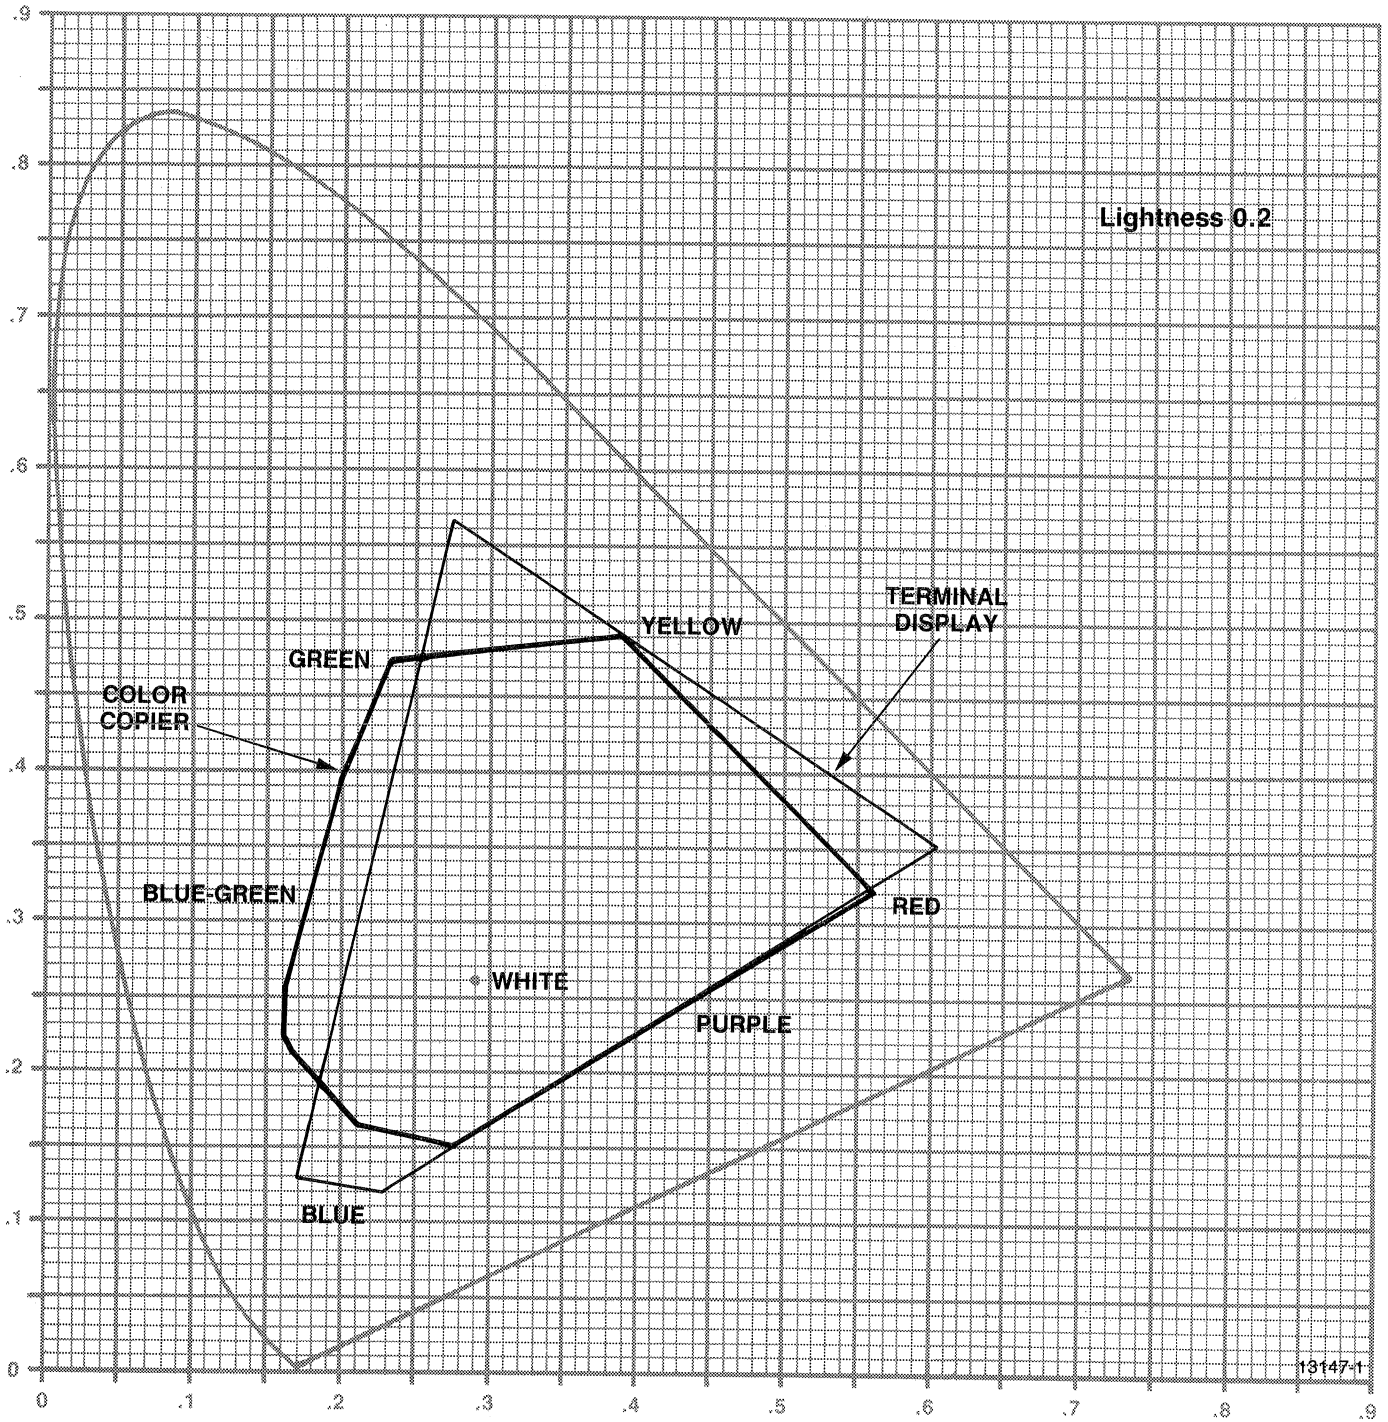
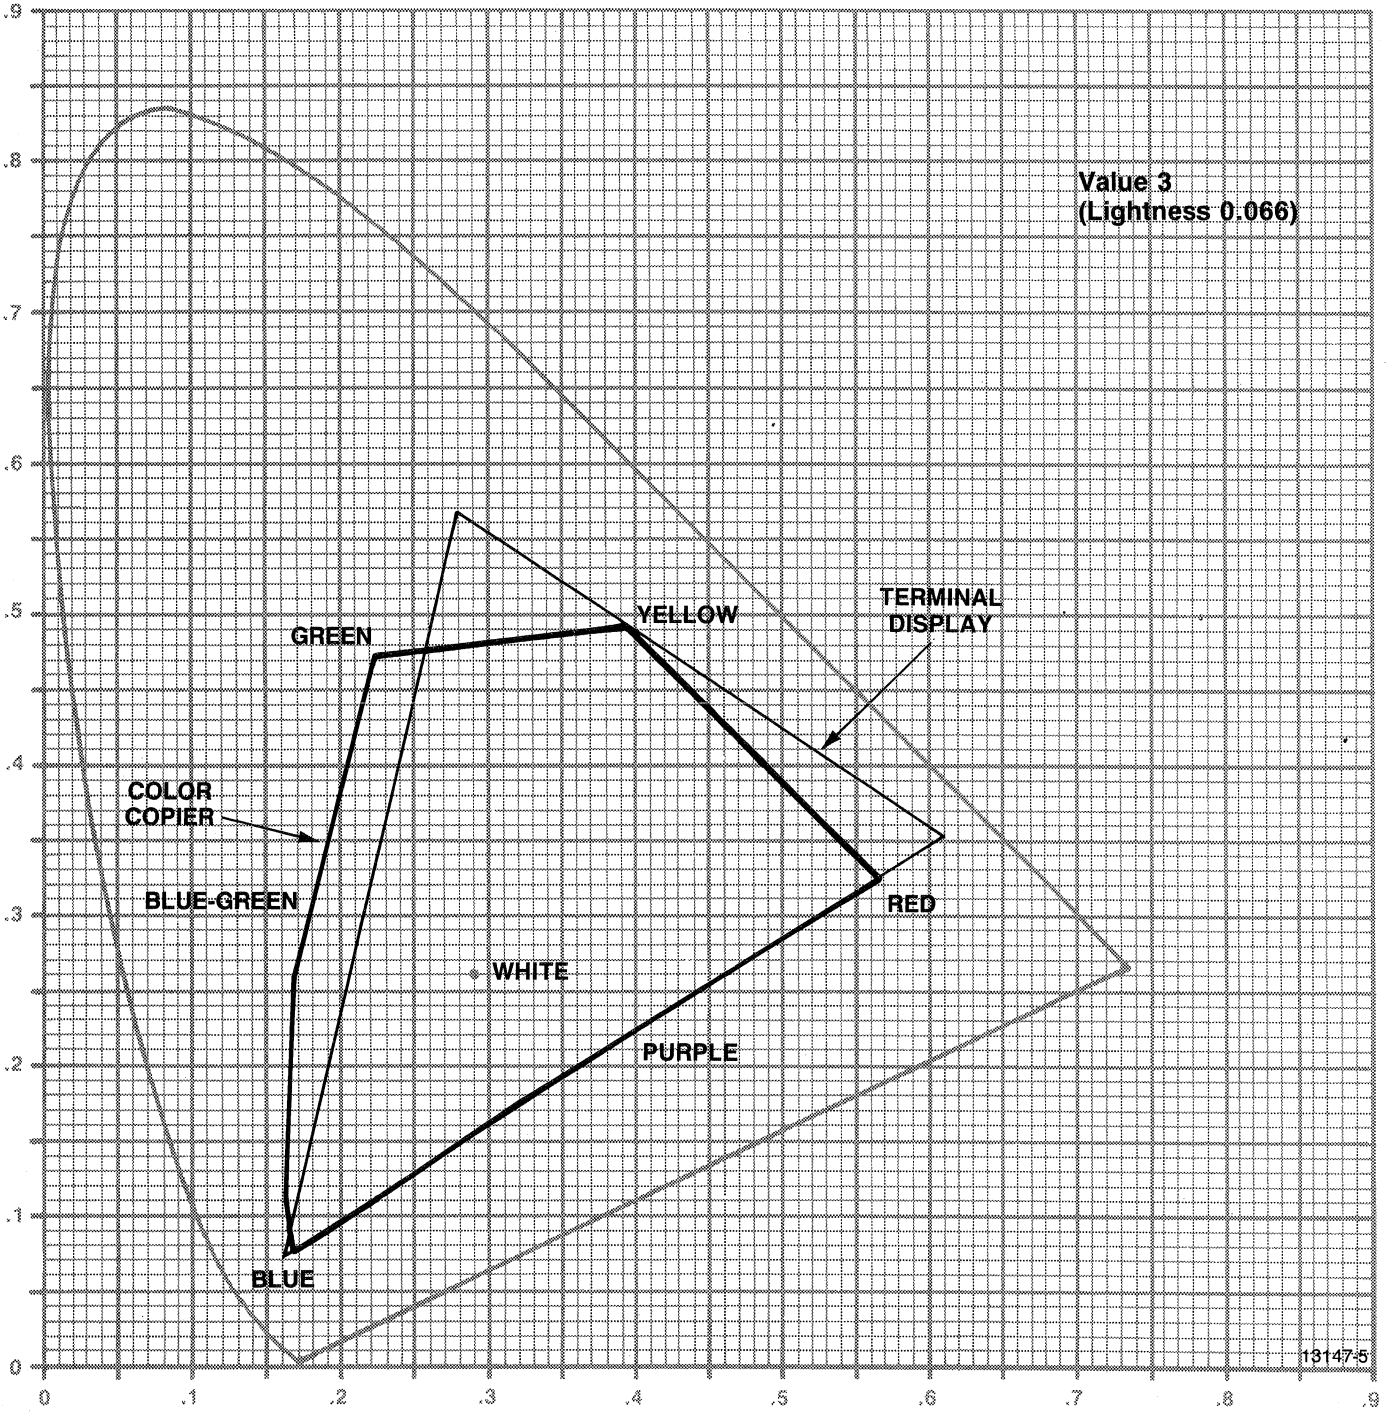

Figure 1a
Figure 2a
Figures 1a. through 1d. show the gamut of colors reachable by the terminal and copier, by levels of lightness (L), in steps of 0.2 based on white as 1.0. Figures 2a. through 2e. show the same information for Munsell values 3, 4, 5, 6, and 8 (lightnesses .066, .120, .198, .301, .598).